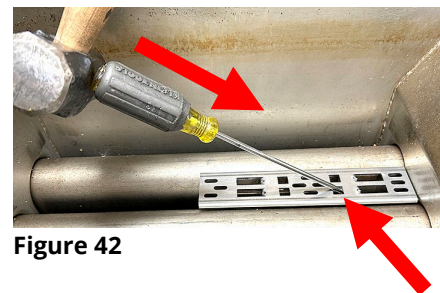

Figure 42
82. If the guard needs to be removed later to replace a probe, use a hammer and screwdriver to bend and unlock the tabs (see Figure 42).